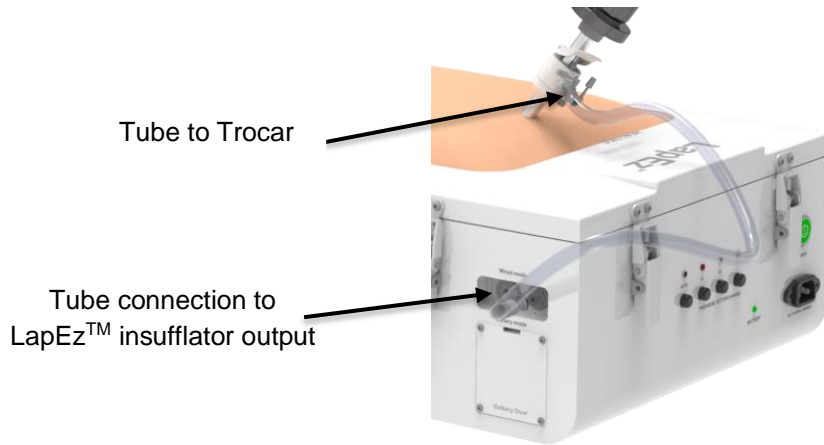

Fig 9. Tube Connections
5.1 Connect one end of the Insufflator tube to the insufflator output of LapEz™ and the other end of the tube to a trocar with luer lock. Refer Fig 9.